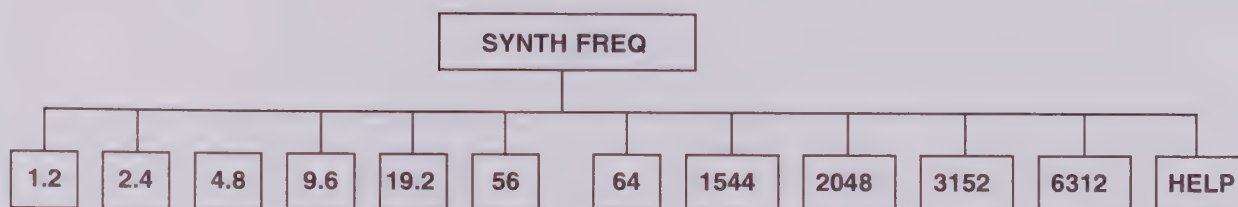

Figure 2-4
A synthesizer frequency can be selected from the set available in the menu (see Figure 2-4); however, any frequency can be specified using the MENU keypad. In such instances, frequencies are entered in kHz and must be within the range of .05 to 15000 kHz. When a frequency outside of this range is entered, the FIREBERD recognizes the entry as illegal and restores the previous setting without disrupting the test in progress. Please note that a newly specified frequency is not current until the **ENTER** key is pressed.
3. Auxiliary function 32 enables the user to program the MENU softkeys so that commonly used frequencies (other than the factory settings shown in Figure 2-4) are available as SYNTH FREQ menu selections. See Table 2-2 for a description of this capability.